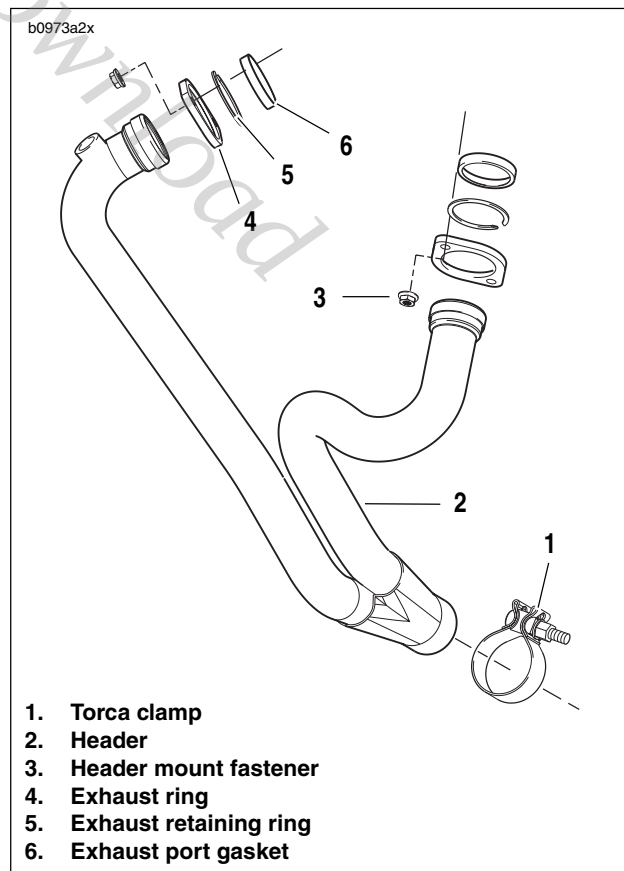

Figure 2-110. Exhaust Header
6. See Figure 2-110. Loosen Torca clamp (1) and remove muffler.
3. See Figure 2-110. Remove exhaust header (2) by removing mounting fasteners (3).
4. Remove exhaust ring (4), retaining ring (5) and port gasket (6).
1. See Figure 2-110. Install exhaust ring (4), retaining ring (5) and **new** port gasket (6).
2. Install exhaust header (2). Tighten mounting fasteners (3) to 72-96 in-lbs (8-11 Nm).
4. See Figure 2-110. Tighten the Torca clamp (1) to 28-30 ft-lbs (38-40.6Nm).